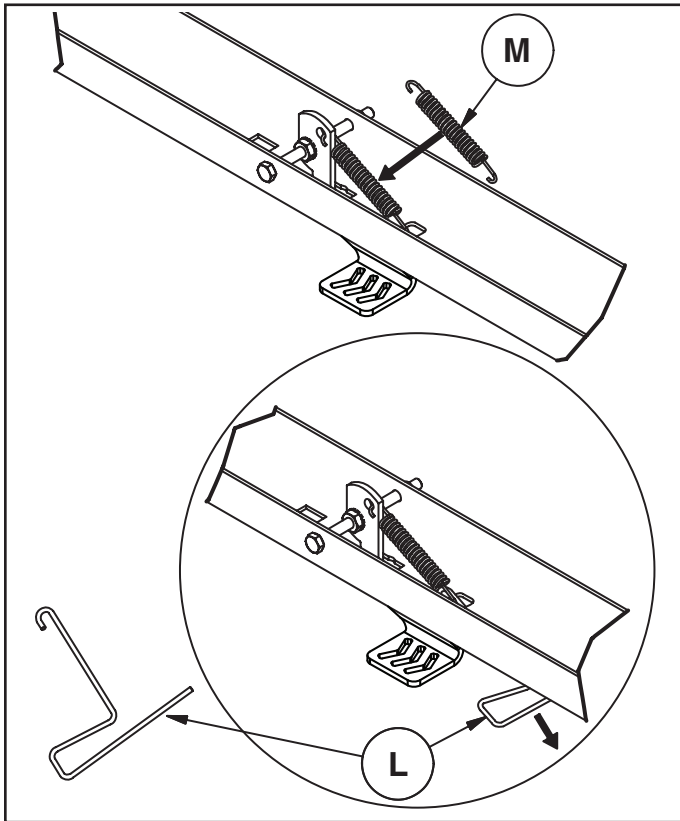

FIGURE 2
STEP 2: (SEE FIGURE 2)
- Hook the short end of the spring (M) into the hole in the foot pedal latch. Use the spring puller tool (L) to hook the long end of the spring into the square hole in the tongue. The spring puller tool can be stored when finished.